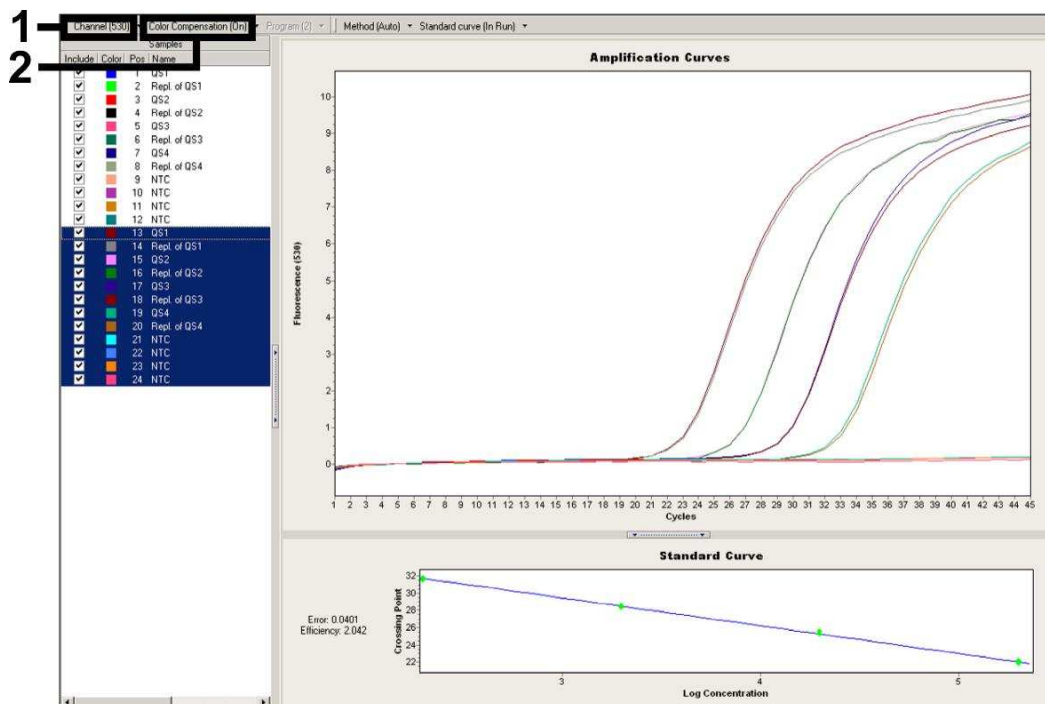

Fig. 9: Activation of the *Color Compensation File* and selection of the fluorescence channel.
For the analysis of PCR data please proceed as follows (see Fig. 9):
- The *LightCycler*[®] Software Version 4.0 contains a file termed *Color Compensation File*, which compensates multicolour analyses interferences between fluorescence channels. Open this file during or after the PCR run by activating the *Color Comp (On/Off)* and then the *Select Color Compensation* button (siehe Fig. 9). If no *Color Compensation File* is installed, generate the file according to the instructions given in the *LightCycler Operator's Manual*.